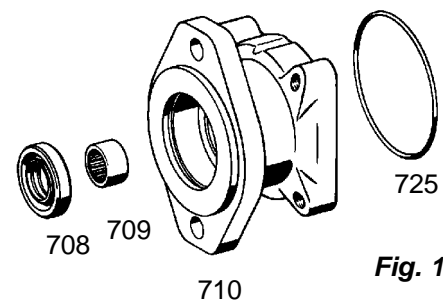

Fig. 18
Press in needle sleeve (709) up to the stop using tool [8] (**Fig. 18**).